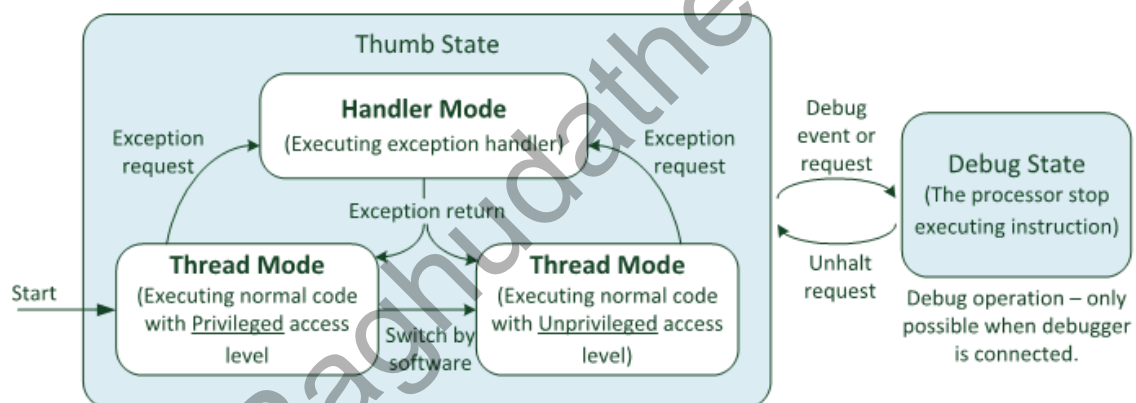

Figure 1: Operation states and modes
- The Cortex-M3 and Cortex-M4 processors have two operation states and two modes. In addition, the processors can have privileged and unprivileged access levels. These are shown in Figure 1.